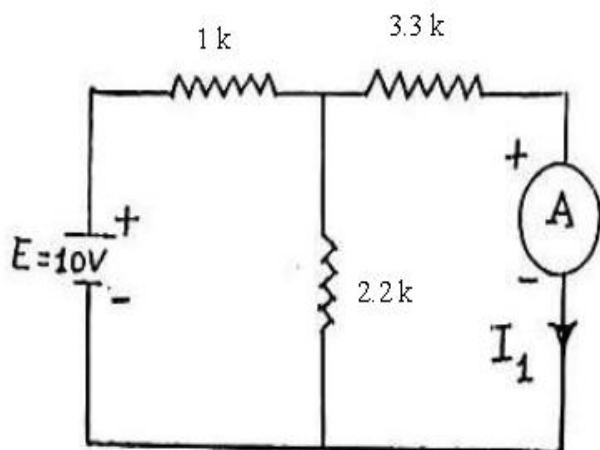

Figure.1
2. Adjust the output voltage of R.P.S to an appropriate voltage say 10 V in Figure 1